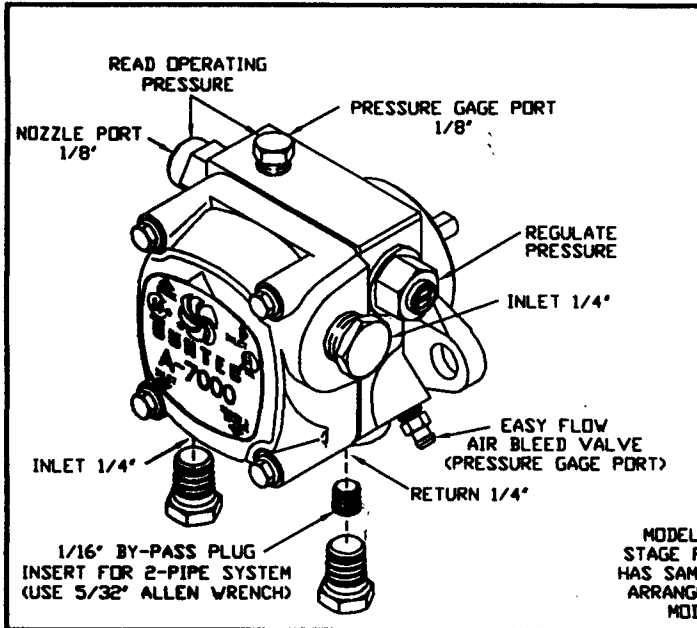
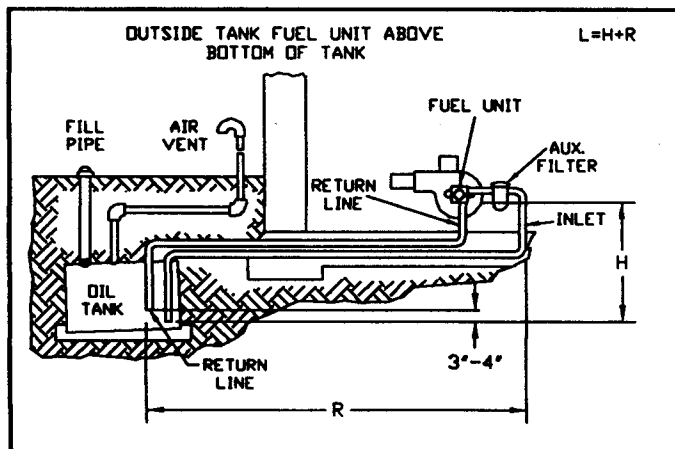

FIGURE 1
FIGURE 5
## TWO-PIPE SYSTEM • FIGURE 5
**REMOVE 1/16\" BY-PASS PLUG FROM PLASTIC BAG ATTACHED TO UNIT.** Remove 1/4\" plug from return port. Insert by-pass plug (See figure 1 or 2). Attach return and inlet lines. Start burner—Air bleeding is automatic. Opening Easy Flow Air Bleed Valve will allow a faster bleed if desired. Return line must terminate 3-4\" above supply line inlet (see Figure 5). Failure to do this may introduce air into the system and could result in the loss of prime.
Always terminate return line as shown in Figure 5. Line lengths include both vertical and horizontal lengths.